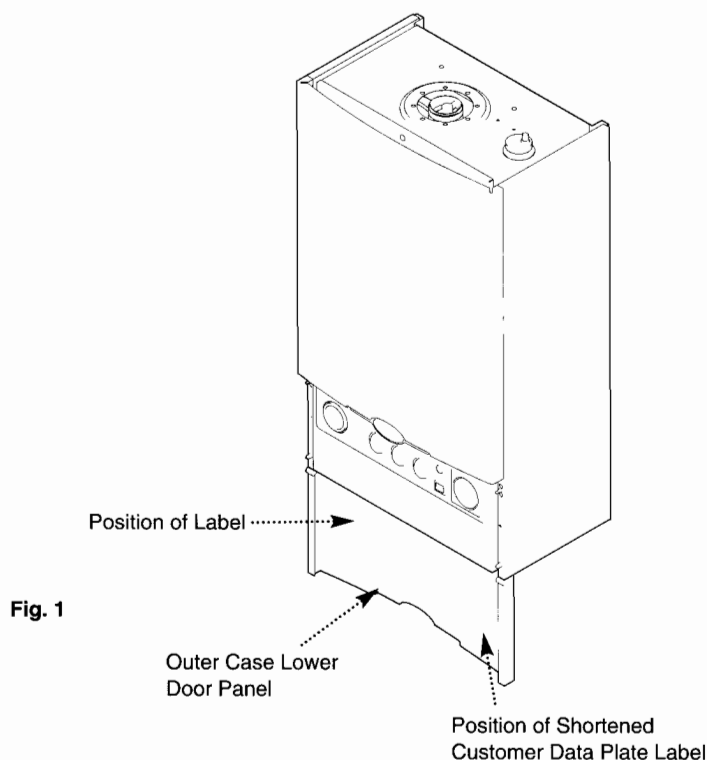

Fig. 1
5. A label giving details of the model, serial number and Gas Council number is situated on the rear of the outer case lower door panel (Fig. 1).